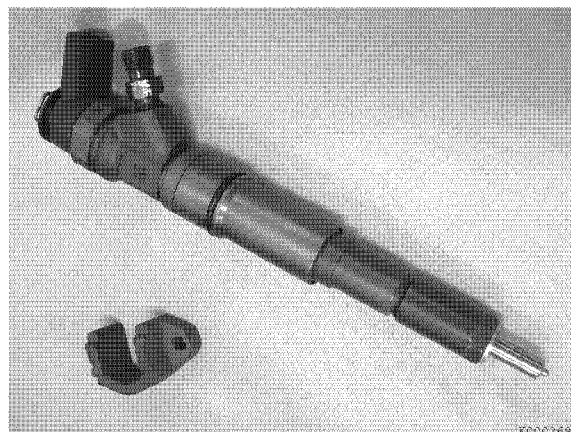

Figure 6-10
7. Remove two nuts retaining fuel injector flange. Remove fuel injector and flange (**Figure 6-10**).